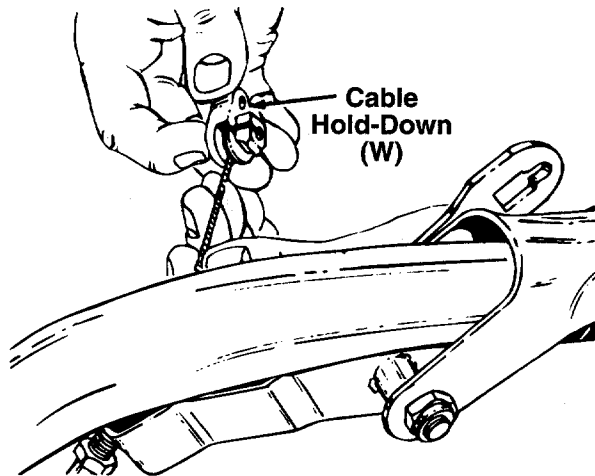

FIGURE 7.
16. Hook the barrel end of the cable into the cable hold-down (W). Slide the cable around in the slot as shown in figure 7.